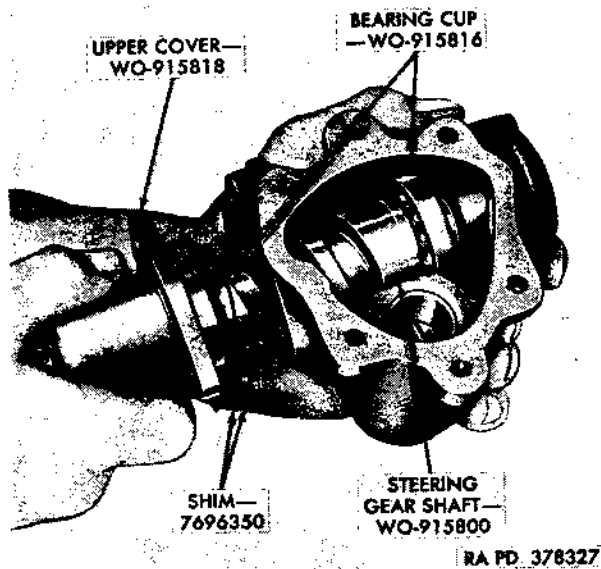

Figure 5. Removing steering gear shaft.
b. *Remove Steering Gear Shaft* (fig. 5). Carefully pull the steering gear shaft out of the housing. Be careful not to damage the cam groove when removing the shaft.